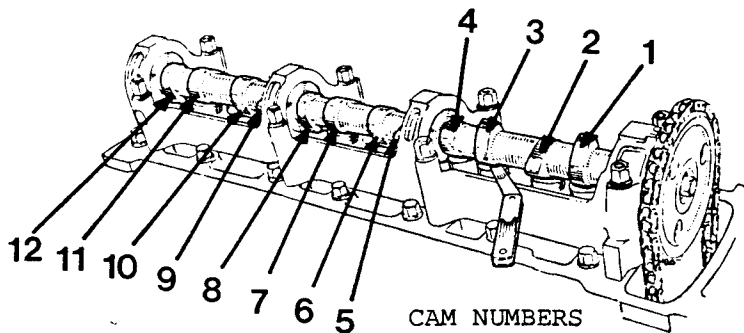

Fig B3.2
- (2) Refer to Fig B3.2. Turn the camshaft against the normal direction of rotation and measure the clearance in the following order: